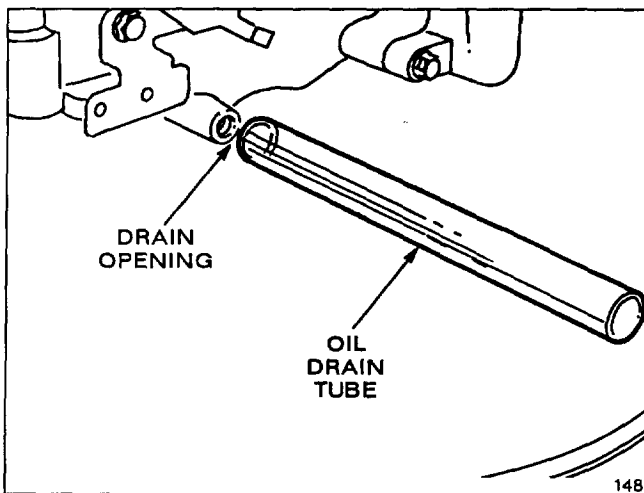

Figure 17
4. Insert oil drain tube over drain opening and lower mower (Fig. 17). Raise right side of mower until all oil has flowed into drain pan.